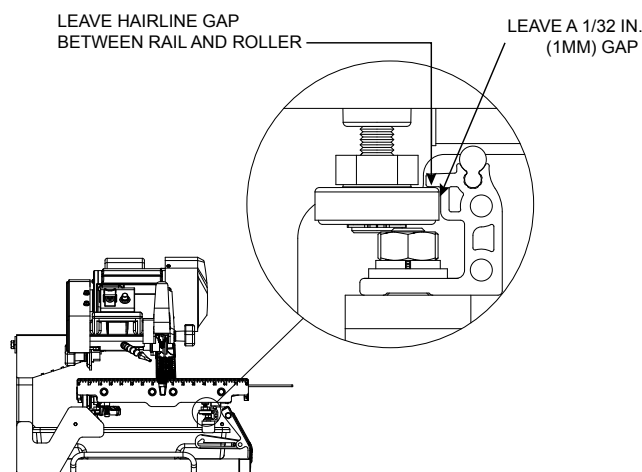

Figure 24. Adjust Right Guide Rail
7. Adjust the right guide rail so that the horizontal rollers underneath the table engage the rail as shown in Figure 24. In most cases the rollers will not have to be vertically adjusted. Spacing between rails must be equidistant at all points to ensure that they are parallel. Once adjustments are made, lightly tighten the fasteners on the right rail and move the table back and forth. If the table binds against the rail at any point, adjust spacing accordingly until the table moves smoothly.
4. After adding shim(s), mount the table onto the guide rails by reversing the instructions in step 2. Move the rails toward each other to engage the horizontal rollers to the right guide rail as shown in Figure 24. Realign the table to the blade using Method 1. Check to see if any shifting persists. A shift tolerance of 0.2mm (.008 in.) is allowed. A shift in excess of that will require further adjustment—repeat step 3.
4. Restore the horizontal rollers to their original positions as shown in Figure 24 by reversing the instructions in step 1. Be sure to tighten the lock nuts and replace the rubber caps.